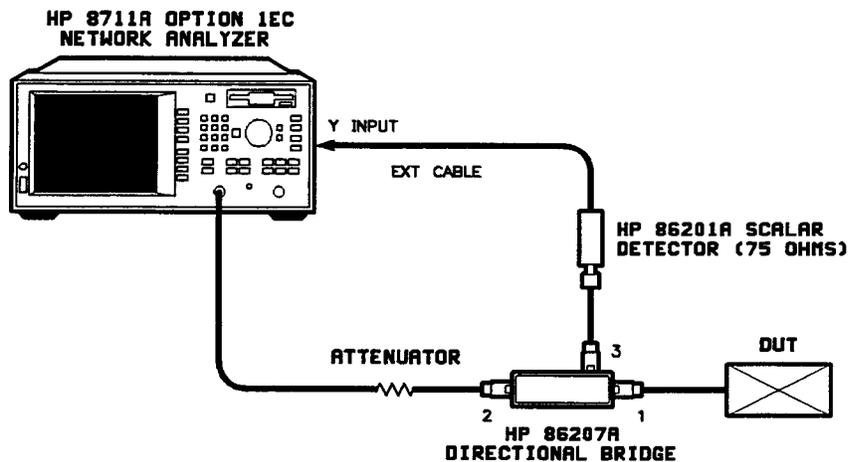

Figure 2-3. Remote Directivity Measurement Setup
1. Connect the equipment as shown in Figure 2-3.